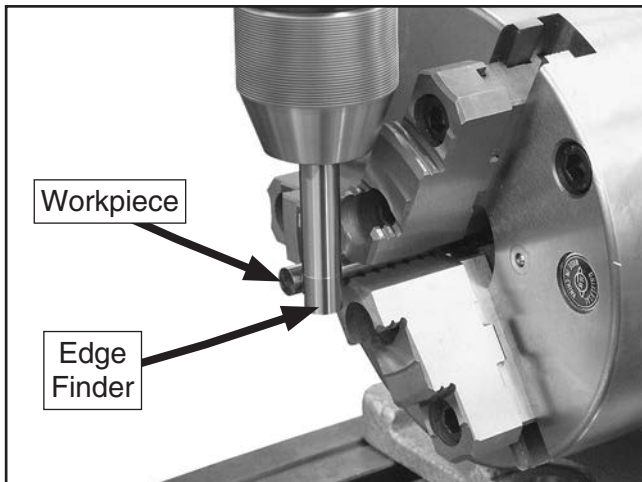

Figure 18. Example of using an edge finder to align workpiece.
1. Mount an edge finder in mill spindle (see **Figure 18**).
2. Accurately measure workpiece diameter, then mount it in chuck, as shown in **Figure 18**.